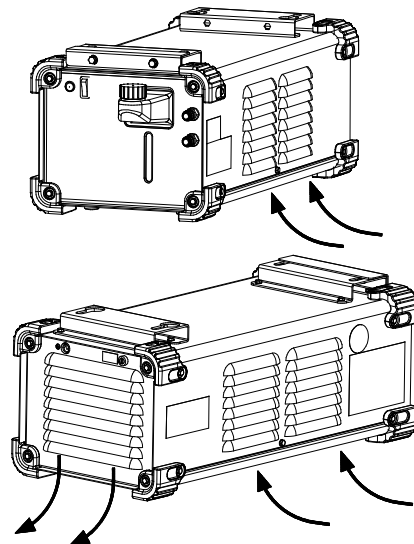

Figure 3.
9. **Airflow Slots:** Enable proper circulation of air cooling (Figure.3).